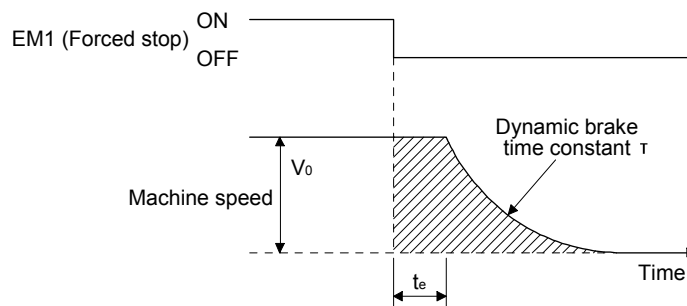

Fig. 10.3 Dynamic brake operation diagram
Fig. 10.3 shows the pattern in which the servo motor comes to a stop when the dynamic brake is operated. Use equation 10.2 to calculate an approximate coasting distance to a stop. The dynamic brake time constant τ varies with the servo motor and machine operation speeds. (Refer to (2) of this section.)